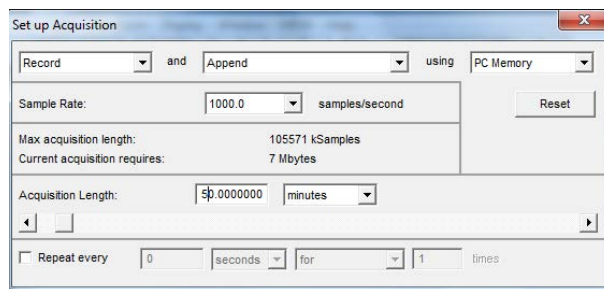

Figure 4: Setup acquisition window
3. Change acquisition length (Fig. 4):